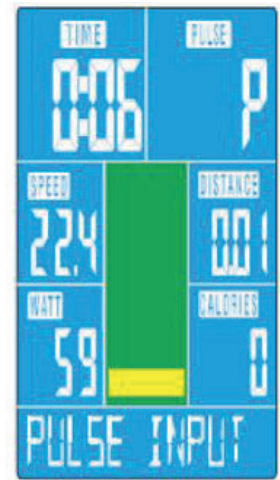

Fig. 16
- + Should no heart rate be detected after 6 seconds, the display will show "PULSE INPUT" (see fig. 16).